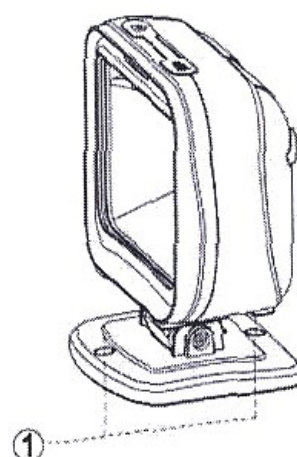

Figure 2-4
4. As shown in Figure 2-4, if you want to fix the stand on a table or other platform, you can remove two plastic stopper on the stand (see ①), then fix the stand with a table with appropriate screws.